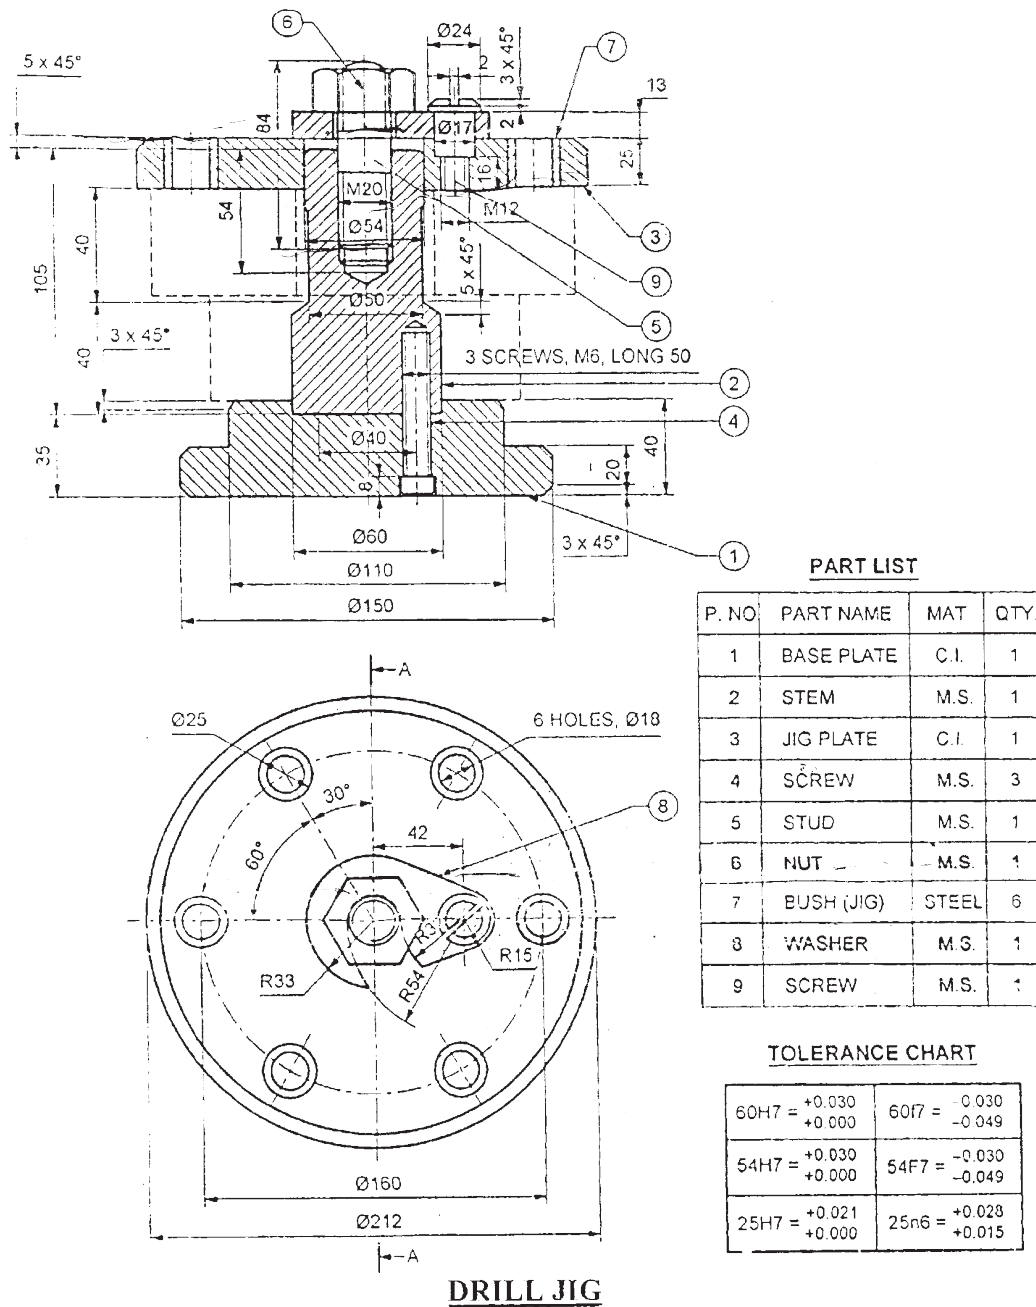

Fig. No. 4
- a) Fig. No. 4 shows assembly of a Drill Jig.